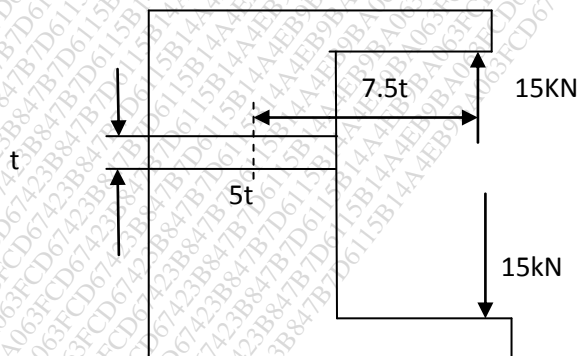

Fig.1
b) A C frame is subjected to a force of 15 kN as shown in figure1. It is made of grey cast iron FG 300 and factor of safety is 2.5. Determine the dimensions of the cross section of the frame. | 06